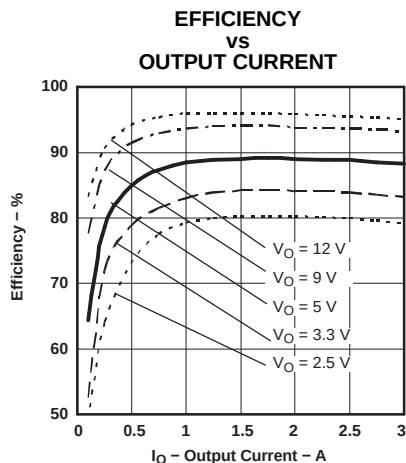
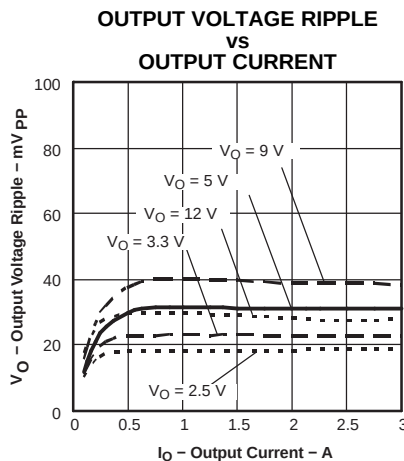
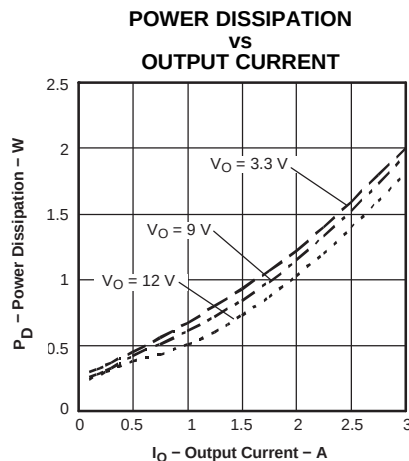

**Figure 6.**
**Figure 7.**
**Figure 8.**
- (1) The electrical characteristic data has been developed from actual products tested at 25° C. This data is considered typical for the converter. Applies to Figure 6, Figure 7, and Figure 8.